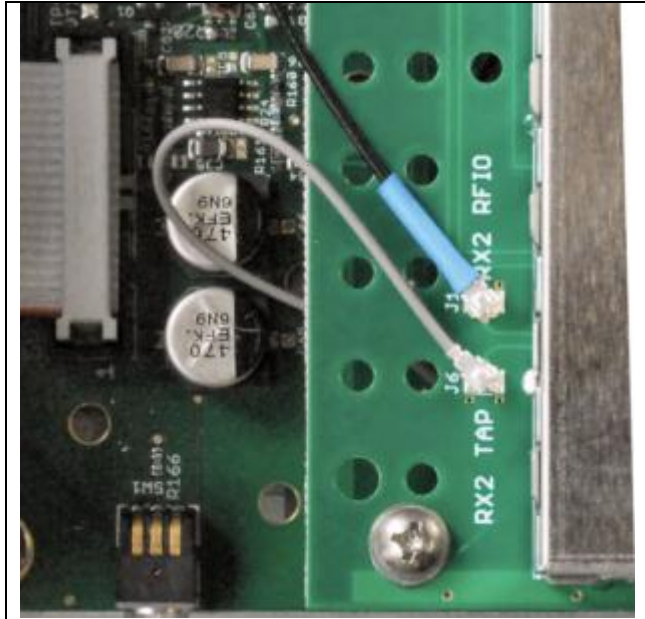

Figure 16
a. Attach the other end of the short coaxial cable, which you connected to J5 "RX2 TAP" on the transceiver board, to the connector J6 "RX2 TAP" on the RX2 board. It's located in the same place as on the transceiver board. See Figure 16 below.